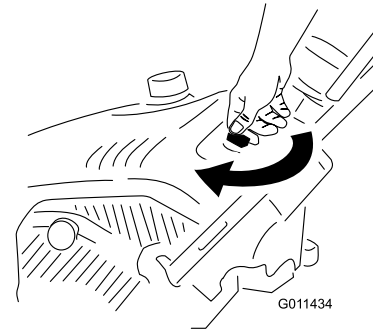

Figure 10
1. Turn the ignition key clockwise to the ON position (Figure 10).